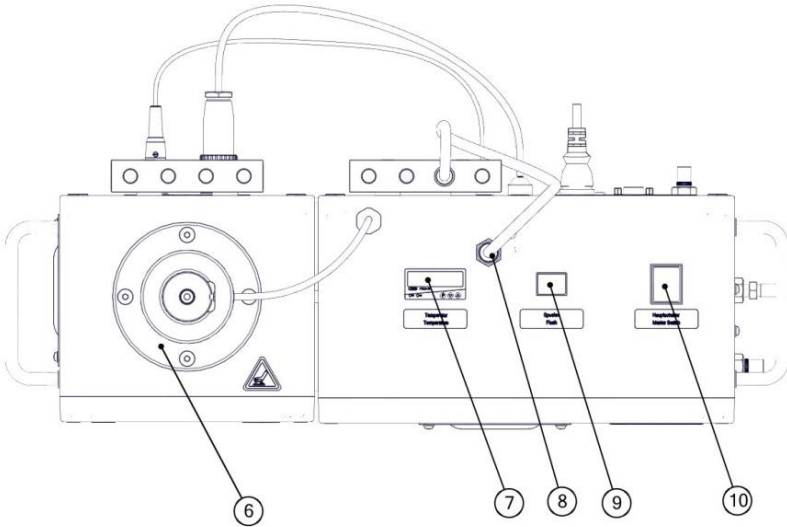

Figure 7.4: Top View
7. Press the Quartz Tube into the Heater Protection Collar (Item 6, Figure 7.4) until it reaches the bottom of the Heater. The measurement readings will now start recording on the display.
13. Press the yellow button on top of the apparatus labeled, “Flush” (Item 9, Figure 7.4). This will draw air out of the Measuring Tube and will rid the tube of any residual gasses. It is recommended to carry out the flush for at least 60 seconds.